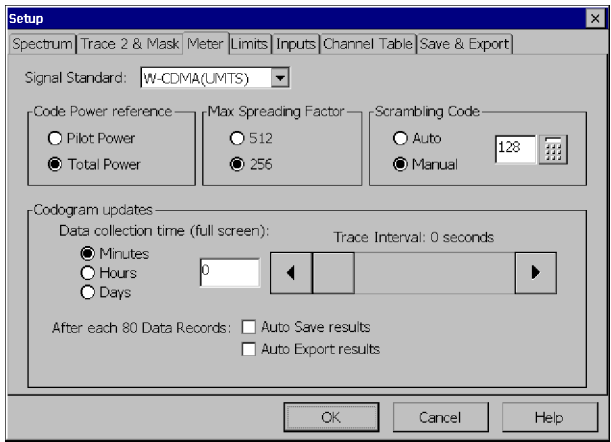

Figure 3-32: Setting the scrambling code
3. Tap the **Meter** tab. See Figure 3-32.